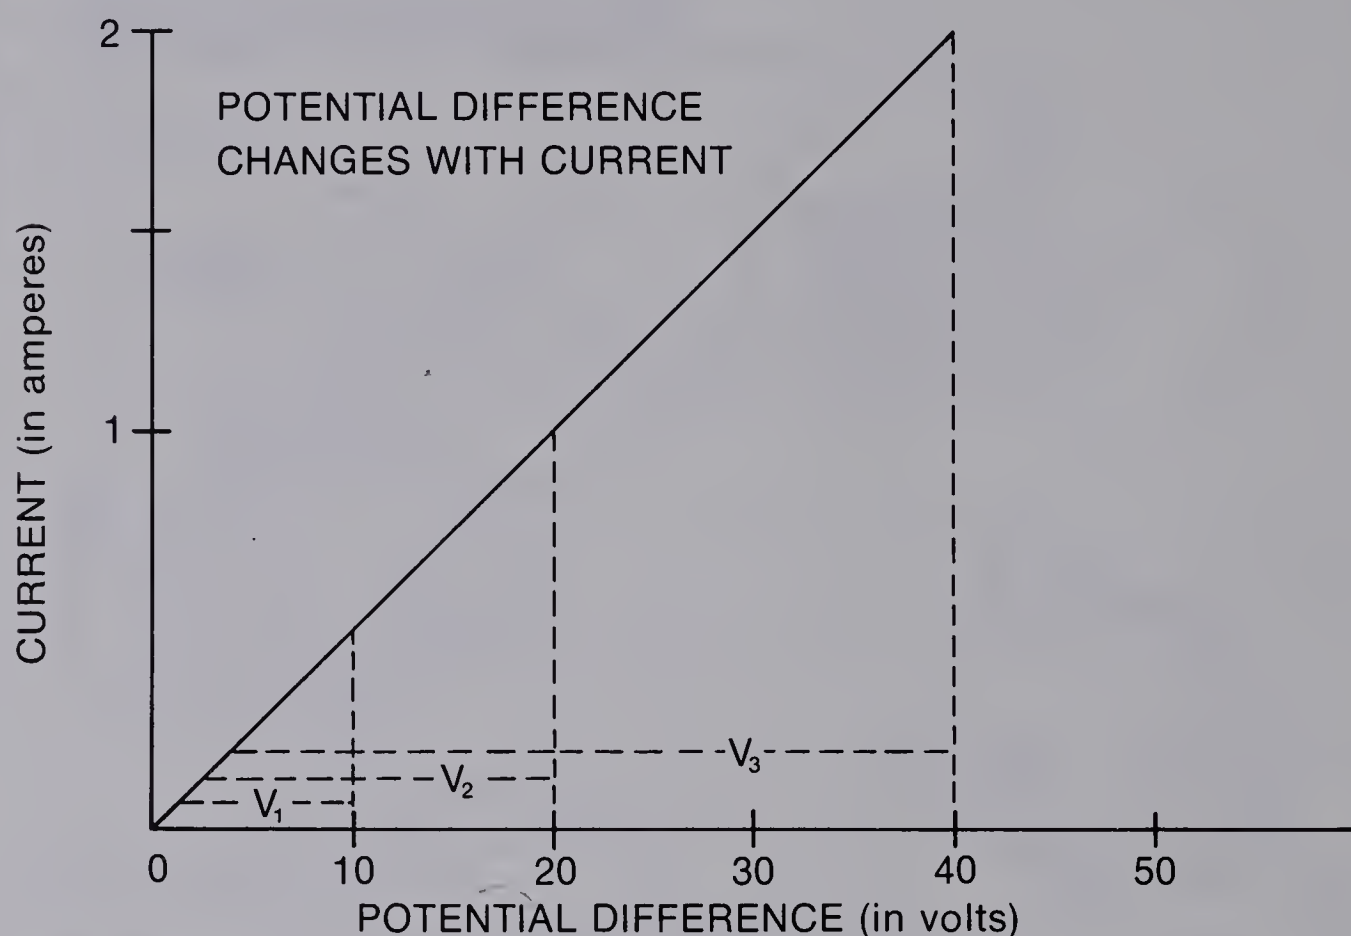

Figure 11-1
Clearly, there is something different about the 50-watt bulb. In 1827, a German teacher named Georg Ohm published the results of some investigations into the factors that determine the amount of current in a circuit. He found that by using different numbers of batteries to vary the potential difference, he could produce different amounts of current in a wire. An experiment of this kind might give data like those shown in Figure 11-1. If you need help reading the graph look at *Resource Unit 2*.
In Figure 11-1, if there were no errors of measurement, all points would fall on a straight line. The line passes through the origin, because when the voltage equals zero, no current can flow. Since this line is a straight line, I (current) is also directly proportional to V (volts).
- 11-4. The data given in Figure 11-1 show that 30 volts of potential difference produce 1.5 amperes of current. Suppose you took the same conductor and applied three times as much potential difference (90 volts) to it. How much current would you expect to get?
For example, take the wire used in making the graph in Figure 11-1.